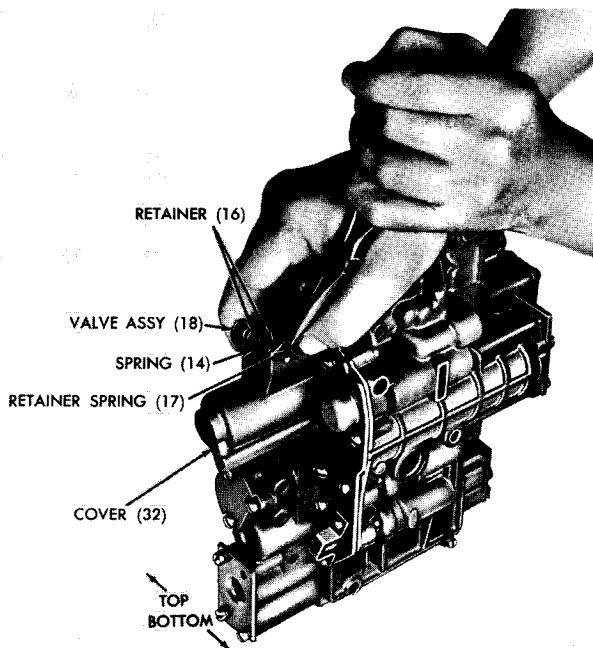

Fig. VIII-15 Installing overage valve retainer spring
(16) Pump overage valve (fig. VIII-15). Assemble a spring retainer 16 to each end of pump overage valve spring 14. Compress the spring and install it between the ribs on the valvebody front cover 32. Install pump overage valve assembly 18 and fasten it with retainer spring 17.